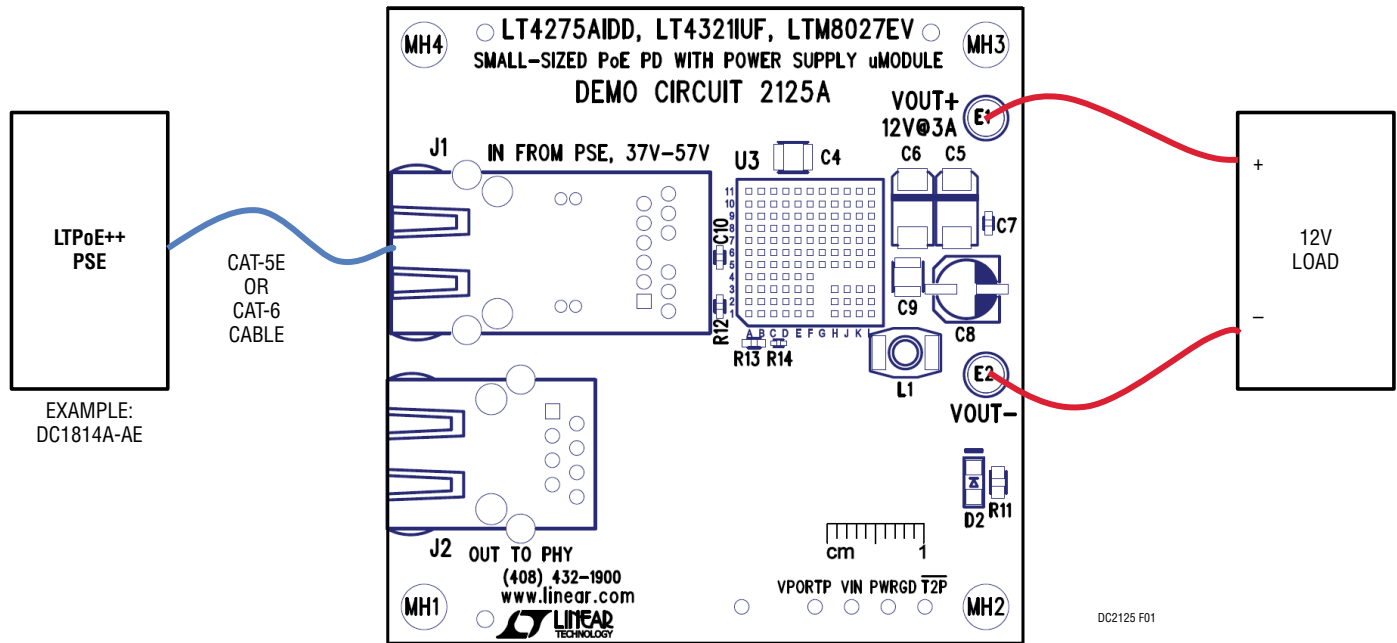

Figure 2. Setup Diagram for the DC2125 Using an LTPoE++ PSE and a Load
1. Refer to Figure 2 below to evaluate the DC2125 while powering a 12V Load such as power resistors or an electronic load.